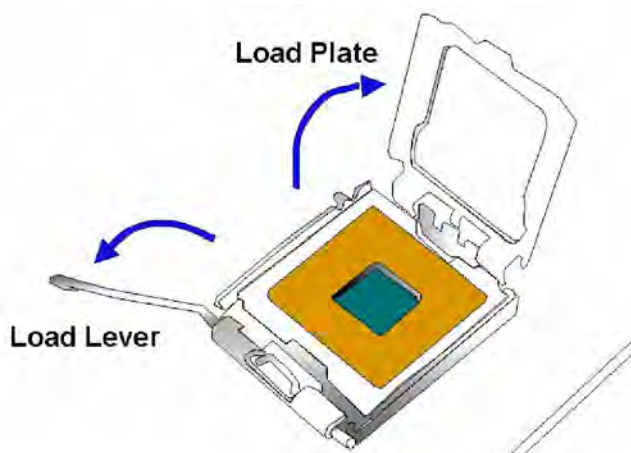

Figure 4-3: Open the CPU Socket Load Plate
**Step 2:** **Open the socket.** Disengage the load lever by pressing the lever down and slightly outward to clear the retention tab. Rotate the load lever to a fully open position. Then rotate the load plate towards the opposite direction. (See **Figure 4-3**)